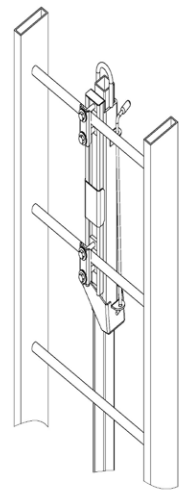

Figure 2
1. Place the post on the wall side of the ladder. *Figure 2*
2. Attach to two rungs as indicated in *Figure 2*.